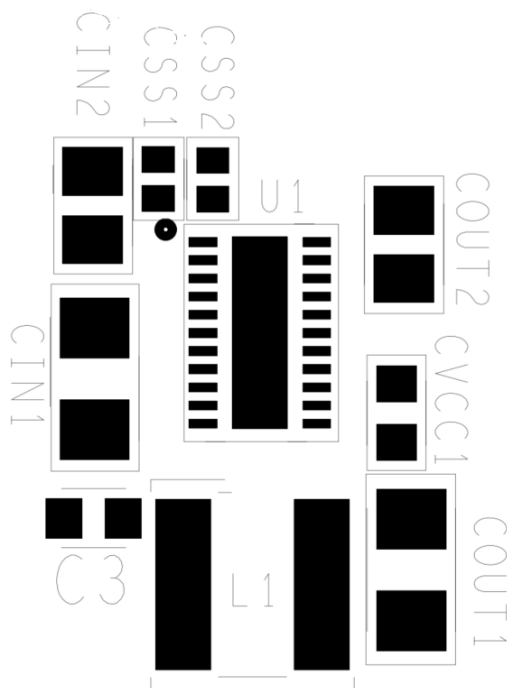

Figure 61. Printed Circuit Board Example Component Placement
Proper layout of the power converter minimizes EMI and noise, and ensure first pass success of the design. PCB layouts are provided in multiple formats on the Renesas web site. In addition, Figure 61 illustrates the important points in PCB layout. In reality, PCB layout of the RAA212421 is quite simple.
- A multilayer PCB with GND plane is recommended. Figure 61 shows the placement of the critical components in the converter. Note that capacitors  $C_{IN}$  and  $C_{OUT}$  could each represent multiple physical capacitors. The most critical connections are to tie the GND1 and GND2 pins to the package GND pad and then use vias to directly connect the GND pad to the system GND plane. This connection of the GND pad to system plane ensures a low impedance path for all return current, as well as an excellent thermal path to dissipate heat. With this connection made, place the high frequency MLCC input capacitor near the  $V_{IN1}$  pin and use vias directly at the capacitor pad to tie the capacitor to the system GND plane.
An example component placement is shown in Figure 61.